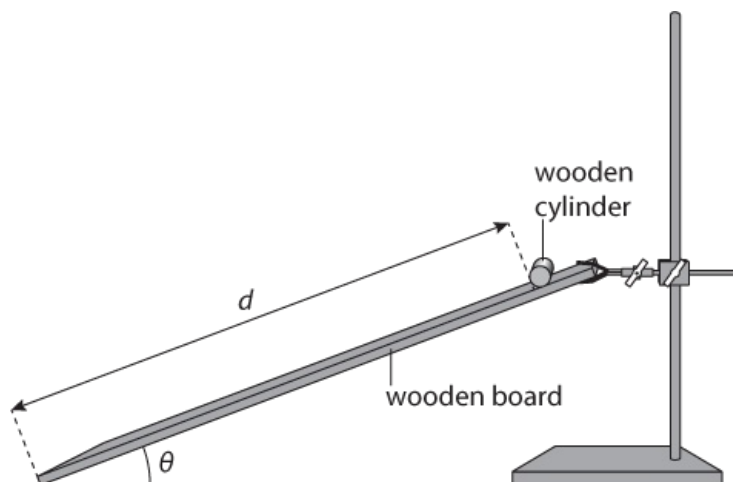

Figure 1.10: Wooden cylinder on sloping board.
- 1 Set up the apparatus as shown in Figure 1.10.
- 1 Use the protractor to measure the angle θ between the plane and the bench as shown in Figure 1.10.